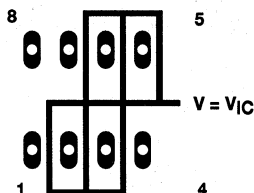
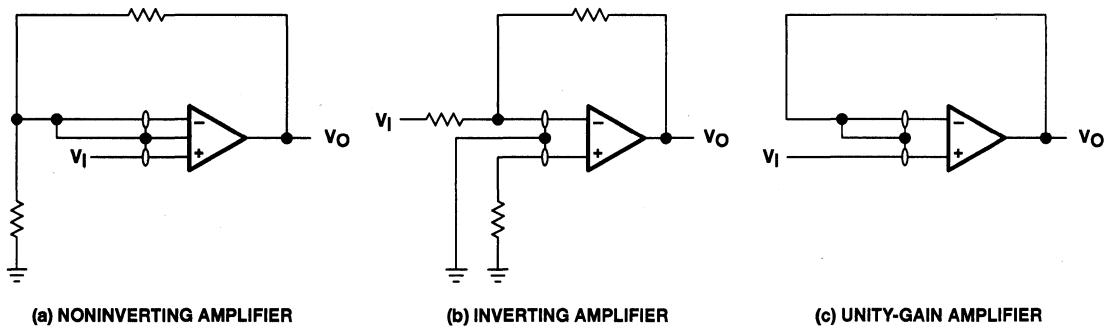

Figure 33. Isolation Metal Around Device Inputs
Figure 37. Guard-Ring Schemes
- Isolate the device from other potential leakage sources. Use a grounded shield around and between the device inputs (see Figure 33). Leakages that would otherwise flow to the inputs are shunted away.
Because of the extremely high input impedance and resulting low bias-current requirements, the TLV2332 is well suited for low-level signal processing; however, leakage currents on printed-circuit boards and sockets can easily exceed bias-current requirements and cause a degradation in device performance. It is good practice to include guard rings around inputs (similar to those of Figure 33 in the Parameter Measurement Information section). These guards should be driven from a low-impedance source at the same voltage level as the common-mode input (see Figure 37).